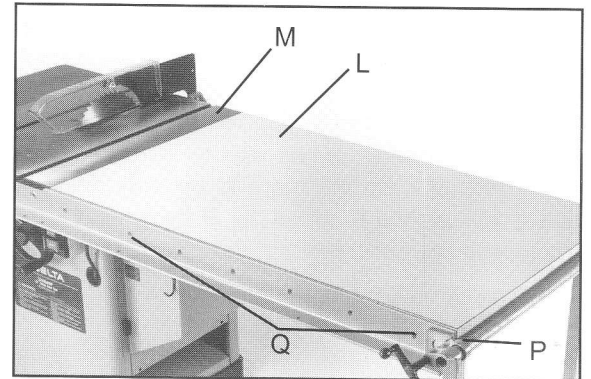

Fig. 12
9. Place table assembly (L) Fig. 12, in position between the two rails, as shown. Make sure end of table is flush against saw table (M). Using a straight edge make sure table (L) is in the same plane and level with saw table (M). Lightly tap up or down and adjust leg leveling screws. When you are certain table (L) is level and in the same plane with saw table (M) tighten bar clamp (P) to hold everything in position. Then drill 1/4" holes through the front and rear of the extension table using holes (Q) in rails as a template. **NOTE: Number of holes (Q) in the front and rear rails will vary depending on the length of the rails you purchased.**